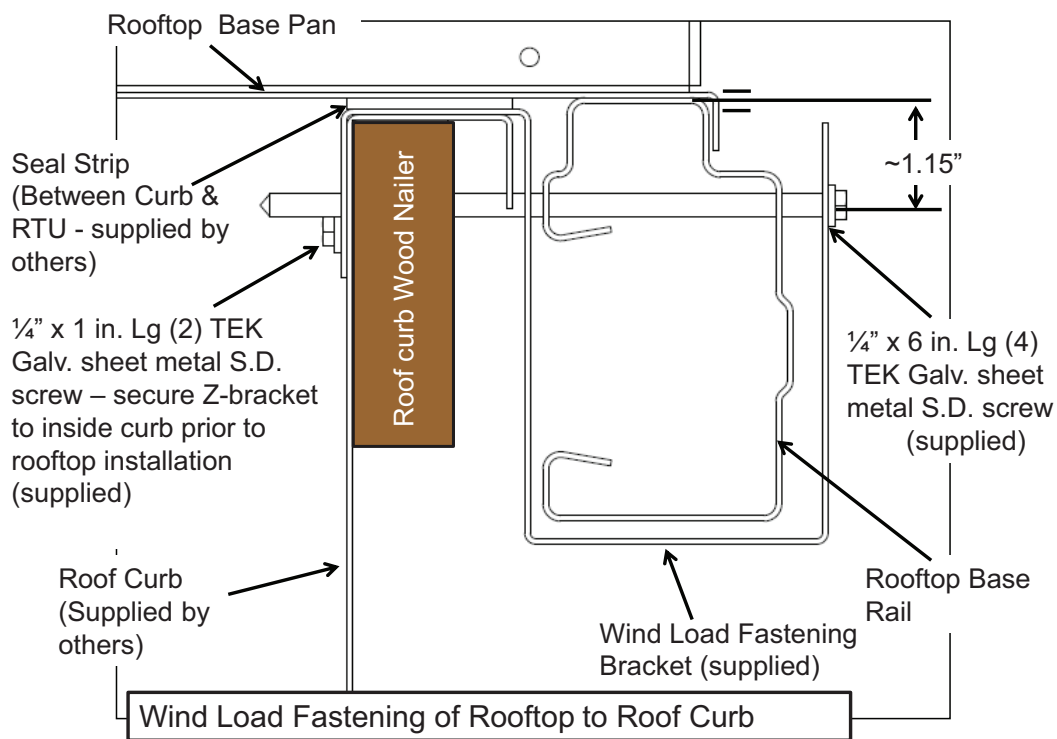

Figure 2 - Wind Load Bracket Installation
5. Set unit down onto curb with the unit base-rail dropping down into the wind load bracket, as shown in Figure 2.